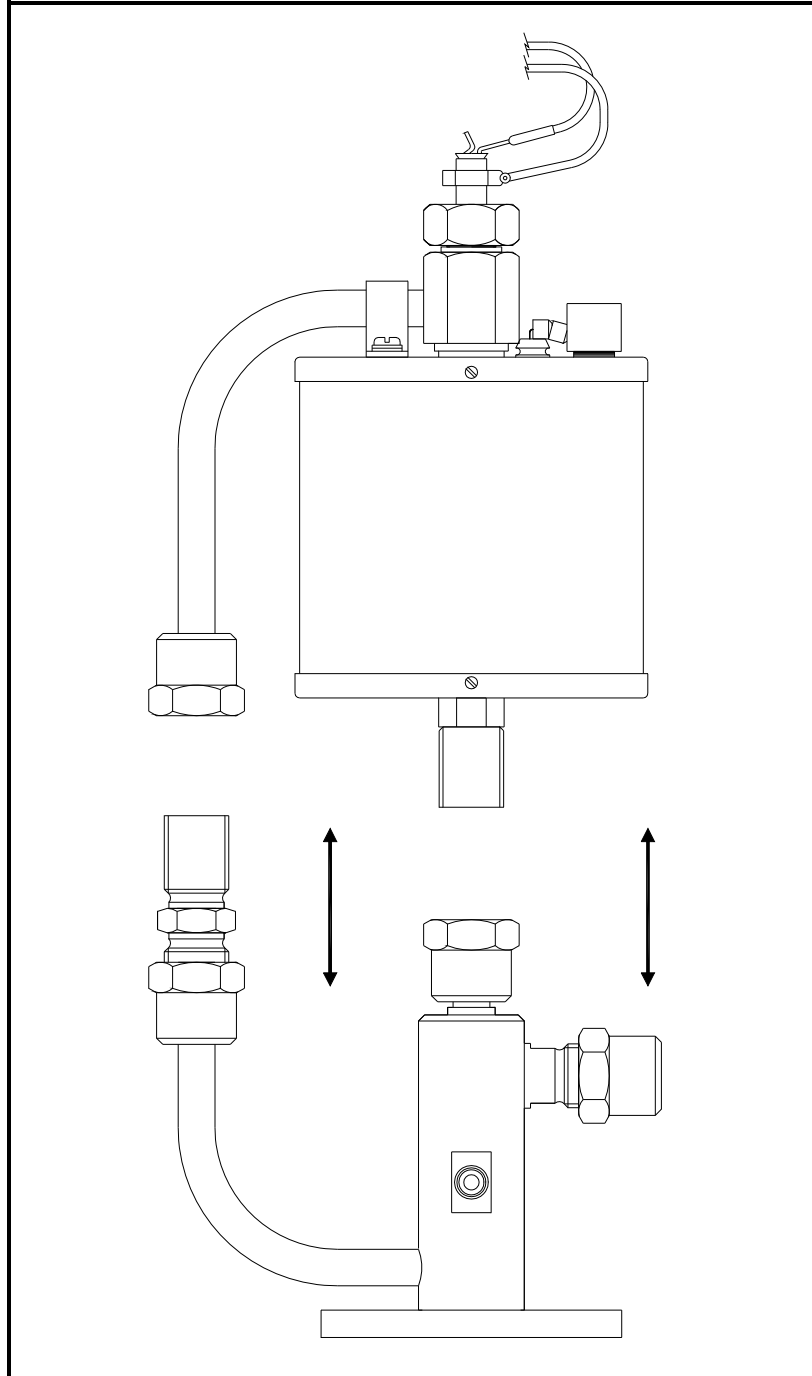

Figure 39: Removal of Sensor Furnace
8. Unscrew both loosened nuts completely and lift the sensor furnace off the manifold, with the upper portion of the convection loop still attached (see Figure 39).
4. Position the sensor furnace/convection loop assembly over the manifold, as shown in Figure 39 on page 88.